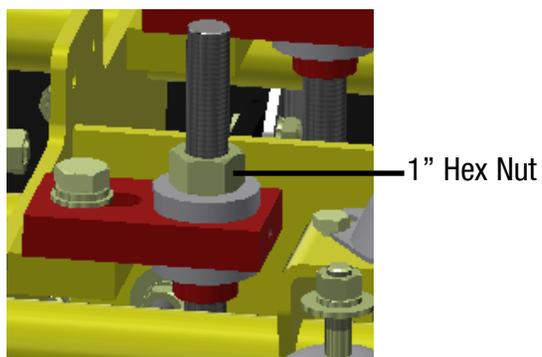

Figure 2.2: Pull Up Adjustment for Paving Pan
- There should be an equal distance from the Frame of the machine to the Paving Pan, if necessary use the pan adjusters to adjust. See Figure 2.2, and “Nose Block & Paving Pan Adjustments” on page 64.